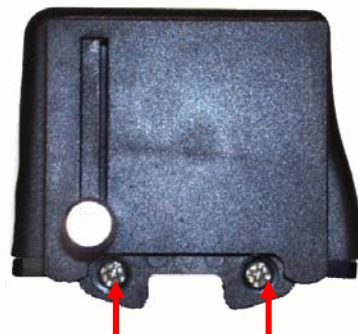

Figure 2:
- a) Remove two screws from Leveling plate on the right side of the unit as shown in Fig 2.